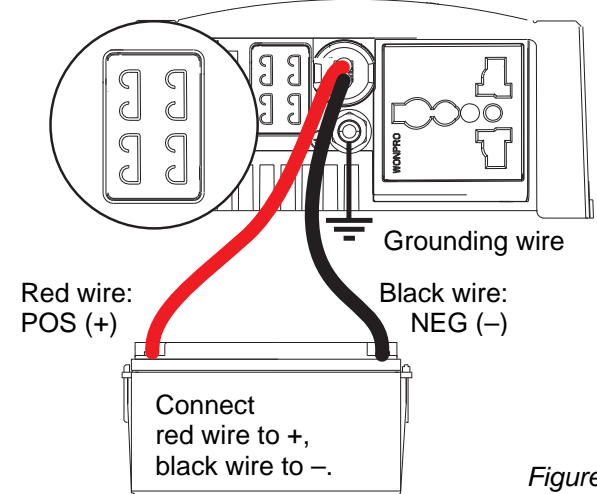

Figure 4
- Connect DC wiring as shown in figure 4: the black terminal NEG (-) to the negative (-) pole of the power source / battery, the red terminal POS (+) to the positive (+) pole of the power source/ battery. Do not place the fuse(s) in the integrated fuse holder yet.